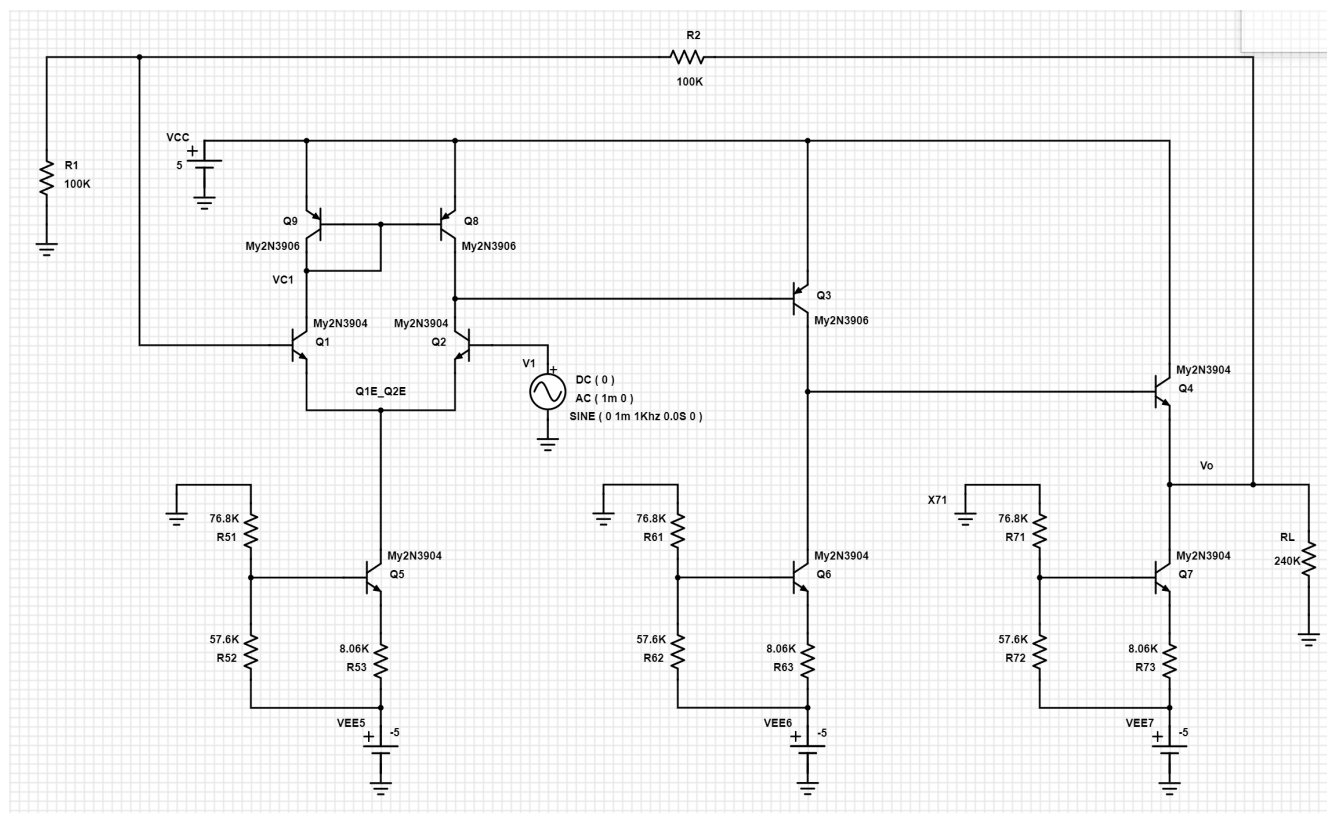
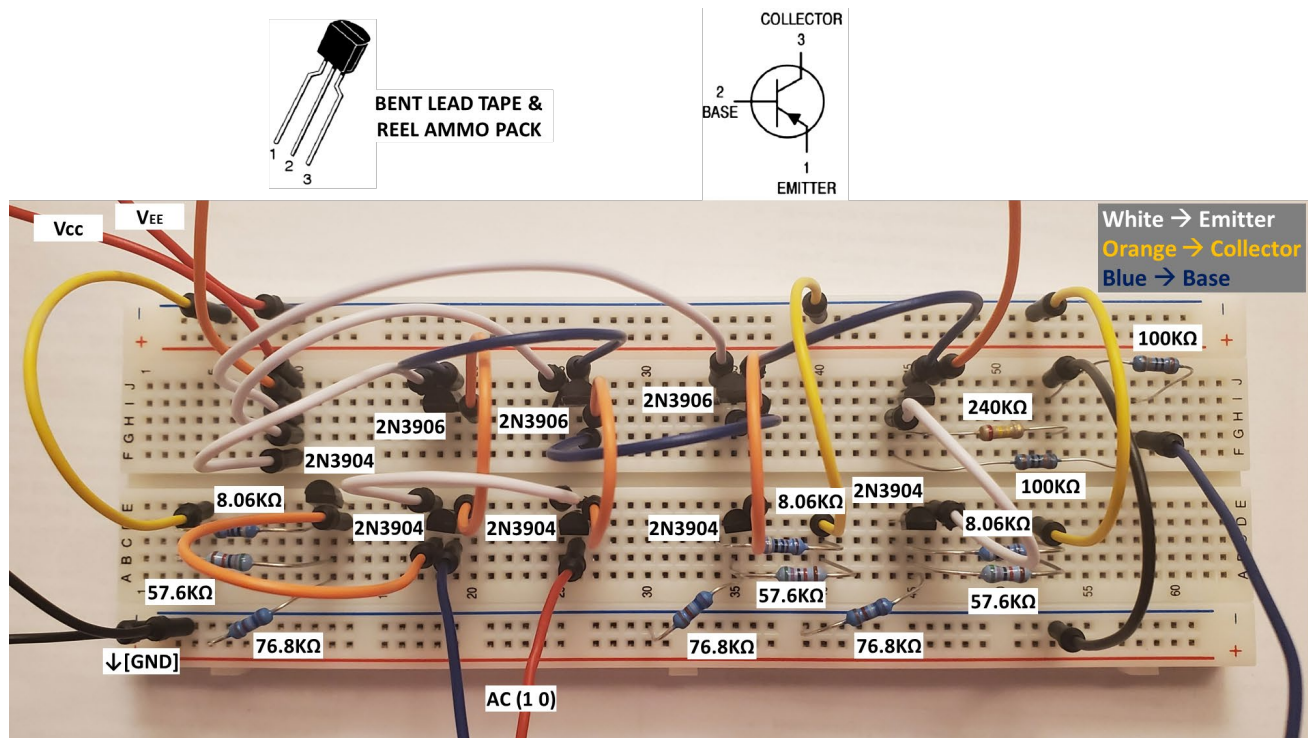

Fig. 2 Schematic diagram of the negative feedback amplifier
Fig. 4 Experimental setup for the negative feedback amplifier
- 1.4 In PartSim (LTspice or PSpice), construct the negative feedback amplifier using the circuit diagram shown in Fig. 2, with resistance values and supply voltages specified in the figure.
- 1.12 Based on Fig. 2, construct the measurement setup, as shown in Fig. 4, for the feedback amplifier using the operational amplifier and the offset voltage for Channel 2 (W2) found in Step 1.11.
1.14 Frequency Response: Based on Fig. 2, with the same wire connections as those in Step 1.11, go to Waveforms software and from the Supplies tab, enable the voltages $V^+ = 5\text{ V}$ and $V^- = -5\text{ V}$, respectively. Next, open the Network Analyzer tool and press Run to see the input (Ch.1) and output (Ch.2) magnitude and output phase versus frequency characteristics. Set the start frequency = 100 Hz, stop frequency = 4 MHz, Scale = Logarithmic, and samples = 201/decade. Set the Wavegen Offset = the offset voltage found in Step 1.11, Amplitude = 1 V, and set Magnitude Units to gain(x), Top equal 3X, and Bottom equal 0 X. Also, set Channel 1 and Channel 2 Gain to 1 X and offset to zero. Then, press Single to take a screenshot of the data. Finally, select File, then Export to copy the input V_1 , output V_o magnitude, and phase response versus frequency characteristics. Uncheck the Comments, Copy to Clipboard, and Paste these data into the sheet “Step 1.14” of the Excel file “Lab 4 – Feedback Circuit.xlsx”. Replace the screenshot with yours and make sure to capture your date and time to avoid mark deduction.
Q6. (5 Points) What kind of feedback configurations (e.g., shunt-shunt) is it for the amplifier in Fig. 2?